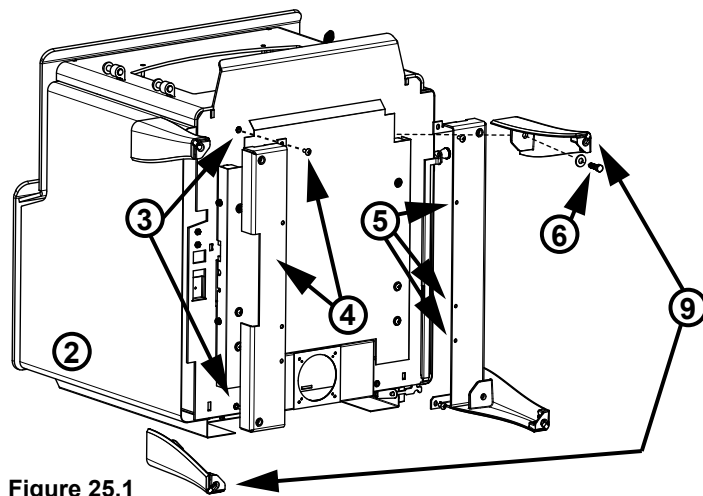

Figure 25.1
3. Remove four screws from bottom of appliance (Figure 25.1).
**NOTE:** There is a right and a left of the leg brackets (Figure 25.1).
5. Install six screws to the bottom of the leg brackets (Figure 25.1).
**NOTE:** Legs with leveling bolts need to be on opposite sides of the appliance - one in the front and one in the back (Figure 25.1)